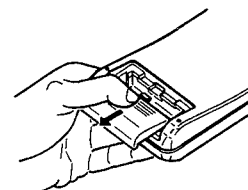

Fig. 9
1. Remove the rear cover of the remote control unit by pressing down on it with your thumb and simultaneously pulling it backwards, as shown in Fig. 9.